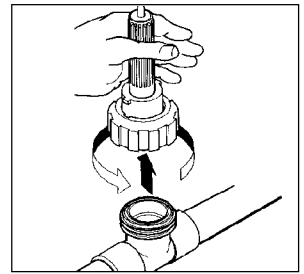

FIGURE 20
1. Close isolation valves and relieve pressure on the system by opening the sample valve. Remove sensor from flow assembly by unscrewing coupling ring. Pull sensor straight up with no side motion to prevent breakage (see fig. 20.) Inspect sensor, if deposits or fouling is present, clean sensor per instructions in Section 10, Maintenance, pg. 50.
1. Close isolation valves and relieve pressure on the system by opening the sample valve. Remove sensor from flow assembly by unscrewing coupling ring. Pull sensor straight up with no side motion to prevent breakage (see fig. 20) Inspect sensor, if deposits or fouling is present, clean sensor per instructions in Section 10, Maintenance, pg. 50.